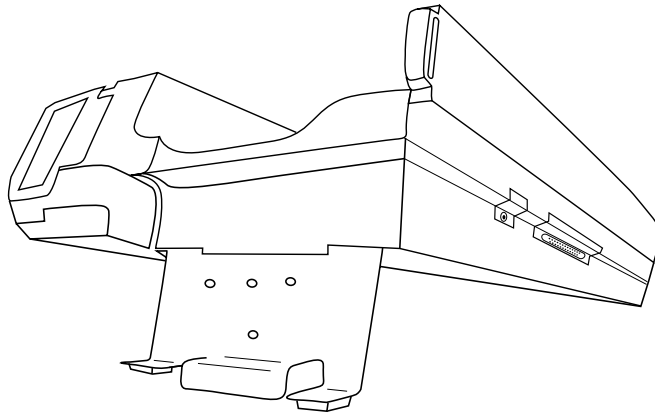

Figure 3-3. Desk Mounting the Cradle
2. Turn the mounting bracket around (table pads should be facing downward - see figure 3-3.).